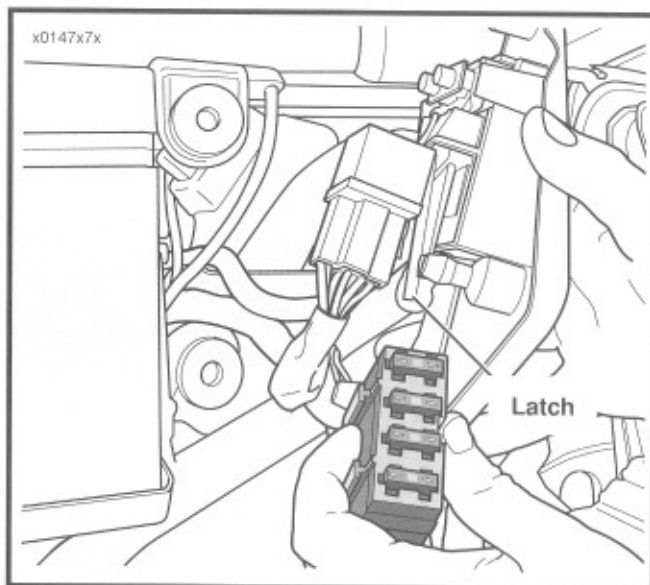

Figure 7-2. Fuse Block
2. See Figure 7-2. Pull up on latch to release fuse block and slide fuse block from electrical bracket.